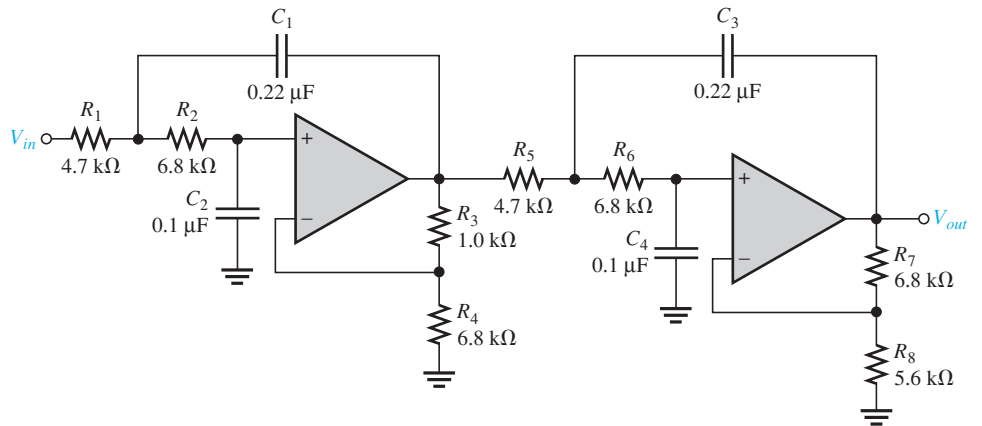

FIGURE 9-31
10. Is the four-pole filter in Figure 9-31 approximately optimized for a Butterworth response? What is the roll-off rate?
11. Determine the critical frequency in Figure 9-31.
12. Without changing the response curve, adjust the component values in the filter of Figure 9-31 to make it an equal-value filter.
13. Modify the filter in Figure 9-31 to increase the roll-off rate to -120 dB/decade while maintaining an approximate Butterworth response.